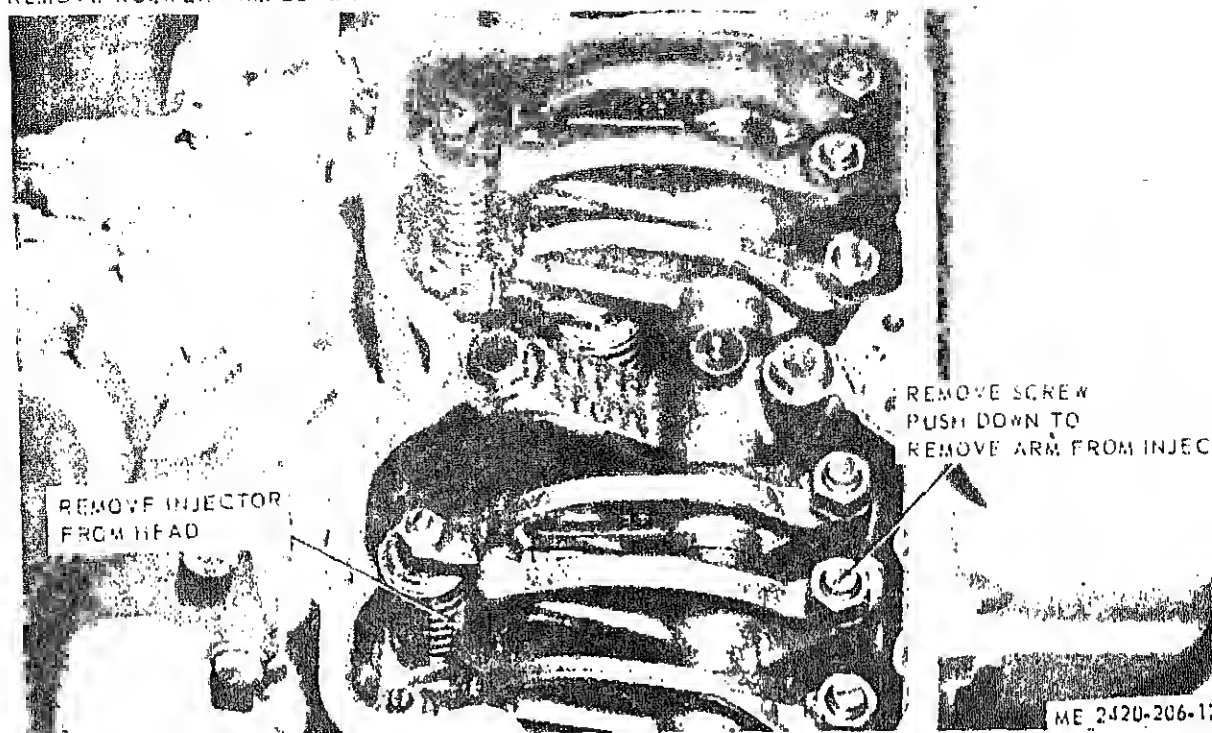

Figure 4-32. Fuel injector, removal and installation.
(1) Install fuel injector in reverse order of removal, fig. 4-32.
(2) Refer to paragraph 4-40 and adjust
(3) Install new rocker arm cover gaske